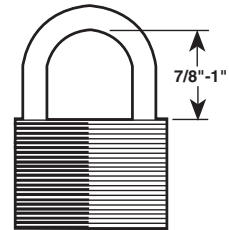

Figure 3
- After removing knock-out, insert the rubber hole protector. Do NOT insert extension cord through hole without grommet in place (see figure 3).
PADLOCK INFORMATION- Padlock with 7/8"-1" shackle height (figure 3) (recommended Master No 5 or equivalent, not included).